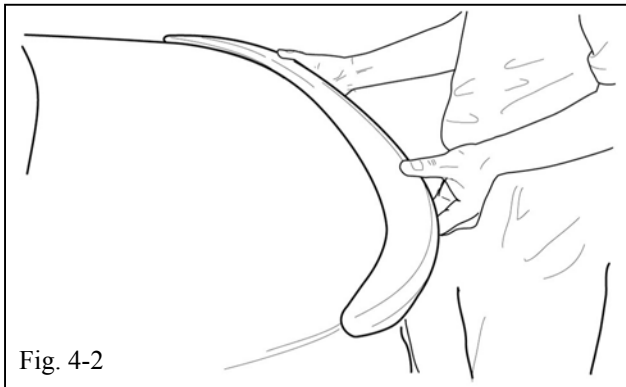

Fig. 4-2
-  (c) Press spoiler forward and down into place and press in the center to fully seat the plastic studs in the 6 mm holes. Continue to apply pressure to ensure complete adhesion of the spoiler to trunk lid surface. (Fig. 4-2)
-  (d) Open the trunk lid and install the two (2) M6 nuts to the two metal M6 studs and two (2) M6 bolts to the outer tips of the Spoiler. Tighten all four fasteners to 25 lbf-in (2.8Nm).